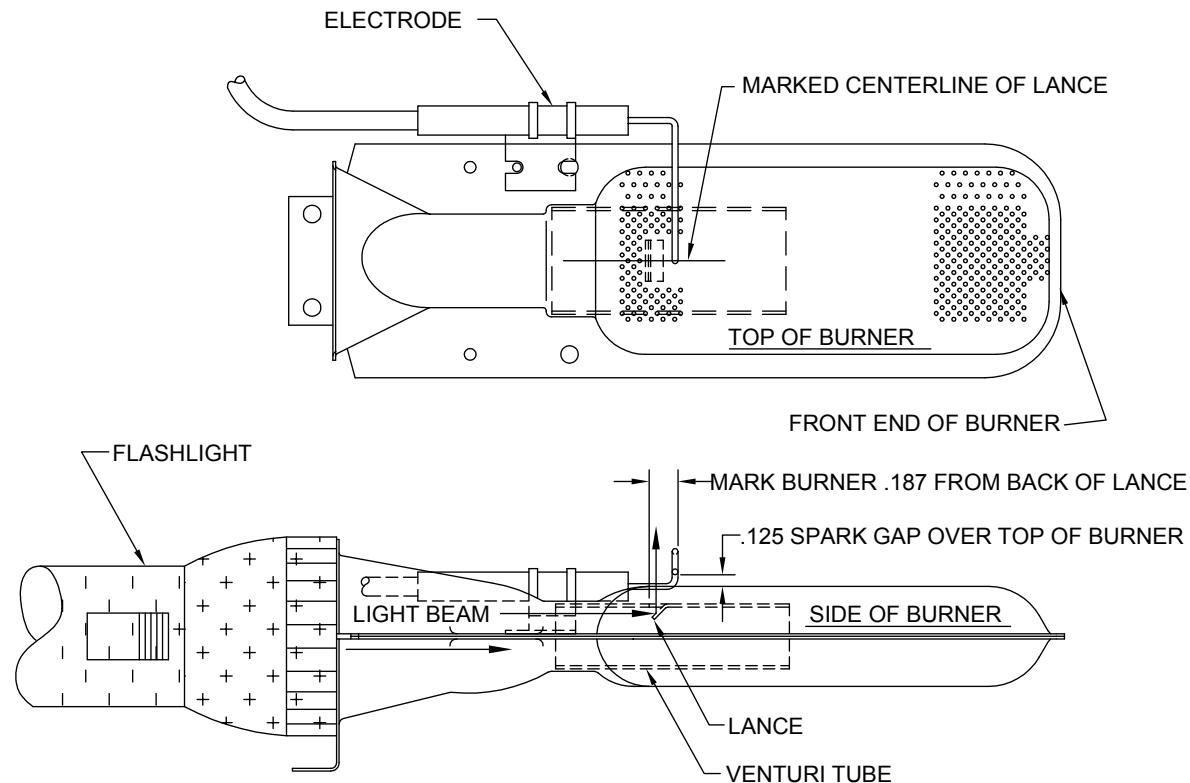

Figure 5
1. Remove burner from combustion chamber by removing six (6) screws which attach the burner to the chamber and air baffles (plates).
- b. Light will reflect off the lance in the venturi of the burner and shine through a portion of the two (2) rolls of burner ports in the top of the burner.
4. Adjust electrode so the electrode probe is positioned along the marked center line of the burner lance and the tip of the electrode terminates $3/16"$ from the back of the lance. (At the line marked in Step 2-c.) (See Figure 5.)